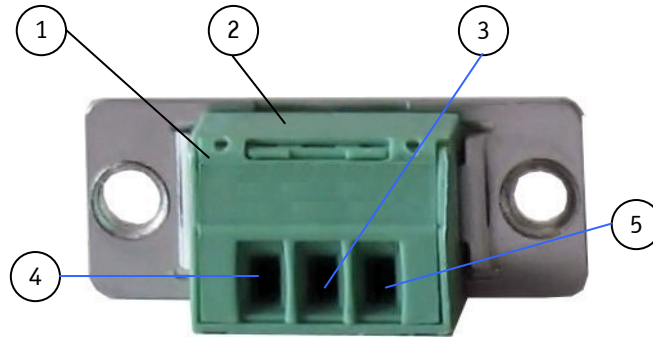

Fig. 36: Phoenix power plug terminal
3. Open the cover (Fig. 36, pos. 2) to have access to the slotted pan head screws.
5. Insert the wires into the corresponding clamp of the Phoenix plug terminal. Make sure that you have the right polarity of the connection [refer to Fig. 36, Fig. 12 or subsection 18.1.1, (X 101) Power Input Connector].
7. Close the cover (Fig. 36, pos. 2).
The DC input connector (Fig. 10 and Fig. 12 marked X101) is located on the front side of the KBox C-101. The KBox C-101 will be connected to a DC main power supply via the supplied Phoenix power plug terminal (see Fig. 36) and corresponding power wires (not included).
The wires used for power connections must be clearly marked (+/-/functional earth) to ensure that they will be proper connected to the DC IN connector of the KBox C-101 and to the main power source, corresponding to signals marked. Refer to Fig. 12 and Fig. 36.